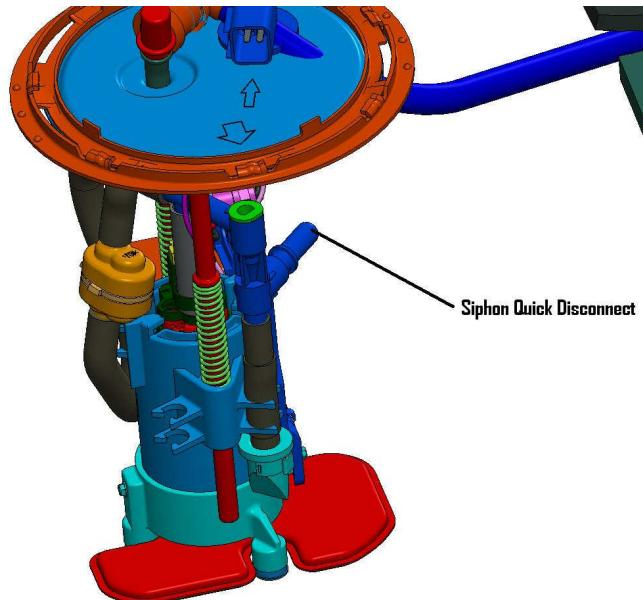

FIGURE 1-2
8. Slowly pull the fuel pump unit up until you see the quick disconnect fitting and tube. Press the tab and pull the line to remove. Pay close attention not to bend the float level arm as you remove the hanger assembly. **Figure 1-2**.